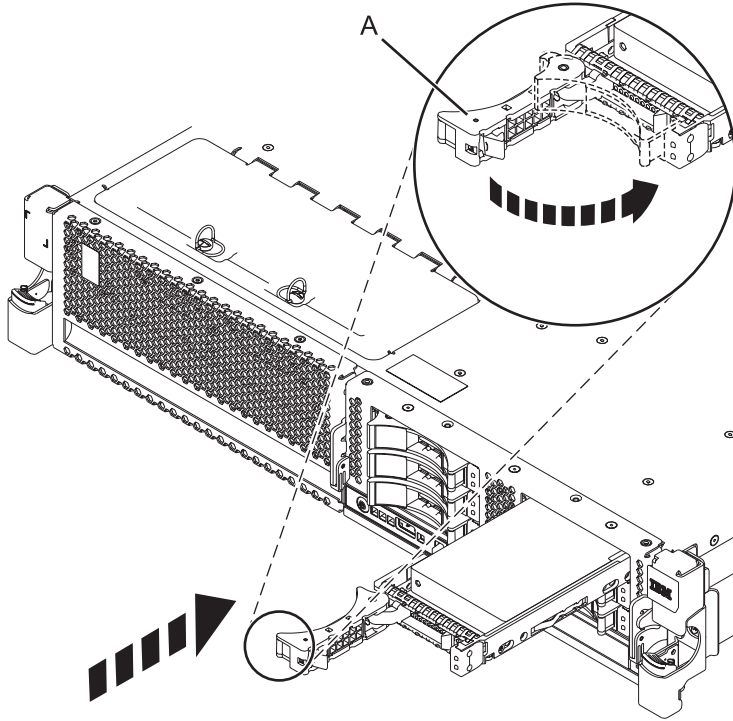

Figure 21. Replacing a disk drive in the system
5. When the identify LED turns on solid, slide the drive all the way into the system, and push the drive handle **(A)** in until it locks, as shown in Figure 21 on page 38.